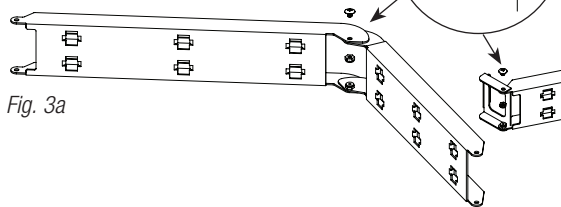

Fig. 3a
2. Attach arms to each other using bolts and lock nuts (*Fig. 3a*, pg. 4).